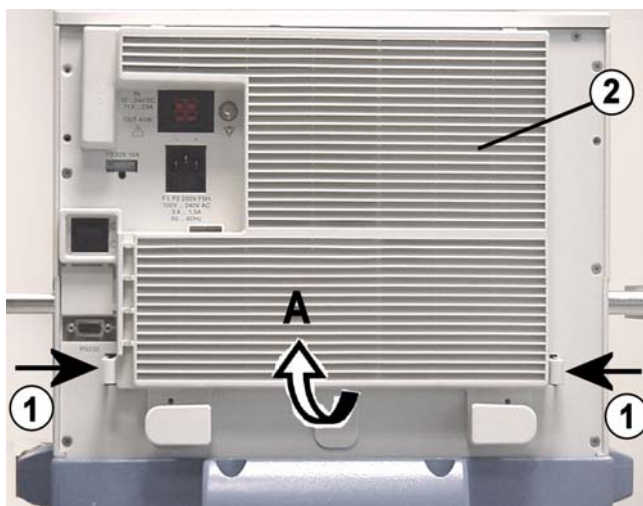

Fig. 25 View of unit rear; filter cover
1. On both sides press down the catches (Fig. 25/1) against the filter cover (Fig. 25/2) lift the filter cover up towards **A** slightly and detach it.